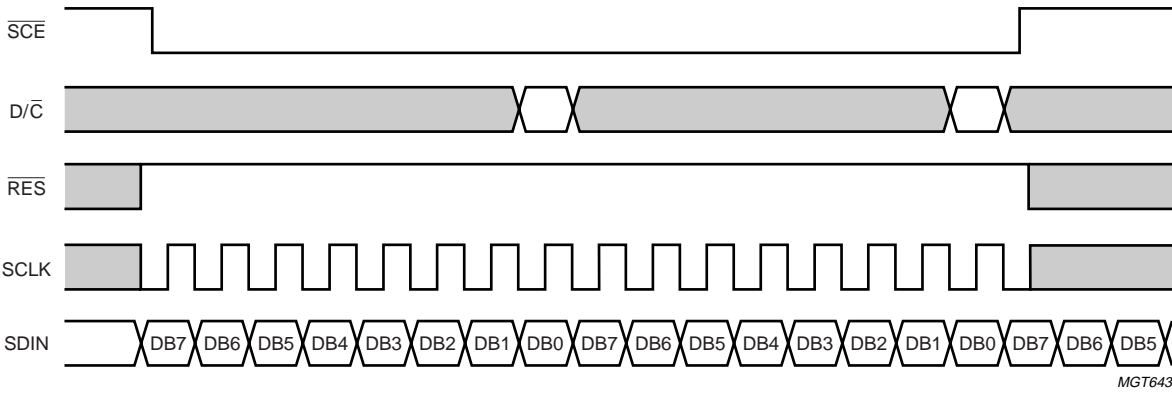

Fig.12 Serial interface enable (\overline{SCE}).
- Or the last bit is latched when pad \overline{SCE} goes HIGH (see Fig.12).